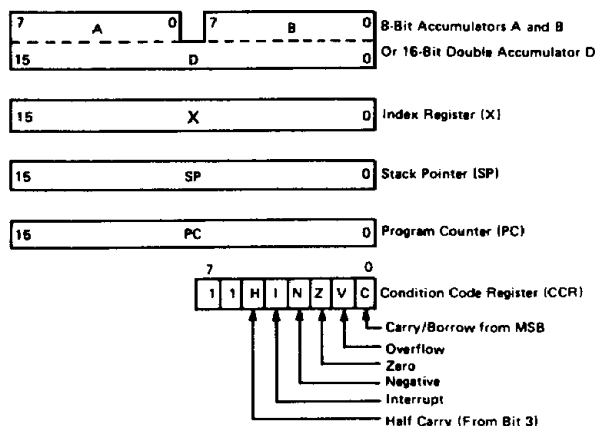

Figure 23 CPU Programming Model
- CPU programming model (See Fig. 23)
The programming model for the HD6301V1 is shown in Figure 23. The double accumulator is physically the same as the accumulator A concatenated with the accumulator B, so that the contents of A and B is changed with executing operation of an accumulator D.